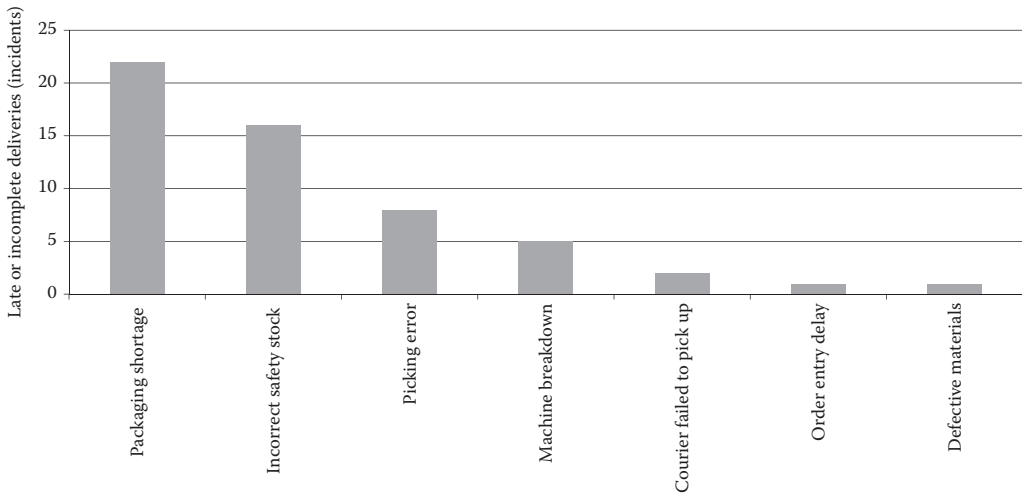

Figure 12.2 Pareto chart showing typical range of causes for delivery failure.
- *Systemic problems need deeper analysis.* Simple day-to-day problems can be solved using concern strips, but complex problems may need use of more advanced root cause analysis tools, such as fishbone diagrams and A3 problem-solving worksheets. Build a Pareto chart ranking the causes of delivery failures, such as the one shown in Figure 12.2. Focus then on addressing the root cause of the largest number of late deliveries.